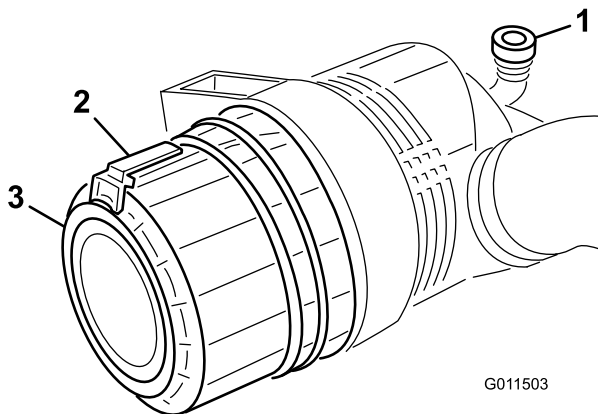

Figure 49
1. Pull the latch outward and rotate the air cleaner cover counterclockwise (Figure 49).
7. Install the cover orienting the rubber outlet valve (Figure 49) in a downward position - between approximately 5:00 to 7:00 when viewed from the end. Secure the latch.